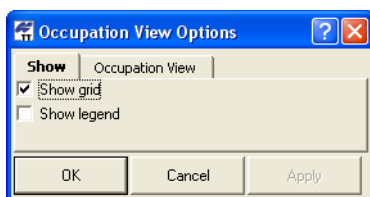

Figure 4-44. Occupation View Show Options
2. On the *Show* tab, enable the desired settings (Figure 4-44 on page 4-42). Click **Apply** to save the settings and make further changes.